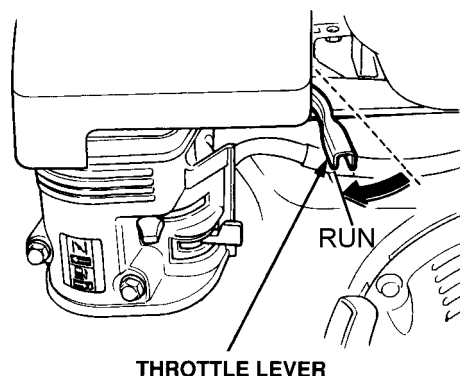

Figure 19. Throttle Lever (Run)
- To begin compacting, place the throttle lever (Figure 19) in the "**RUN**" position.